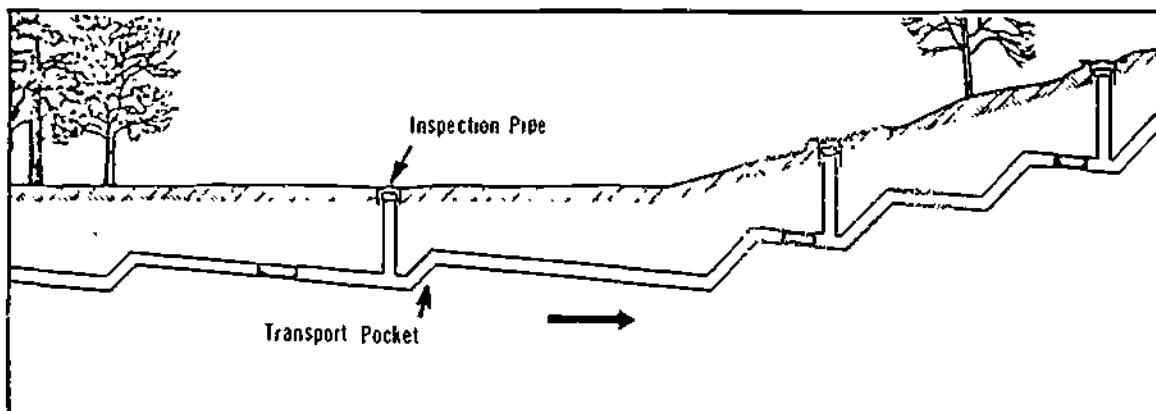

Figure 37-35. The Vacuum Piping Network
- The vacuum piping network*, to transport sewage and distribute vacuum (Figure 37-35).
Vacuum sewage transport is essentially a plug transport, in which sewage in the form of a long plug or slug is propelled through the piping. Gravity, however, tends to break down the plug which has to be re-formed at certain low points, or transport pockets, installed at intervals. (See Figure 37-35.)